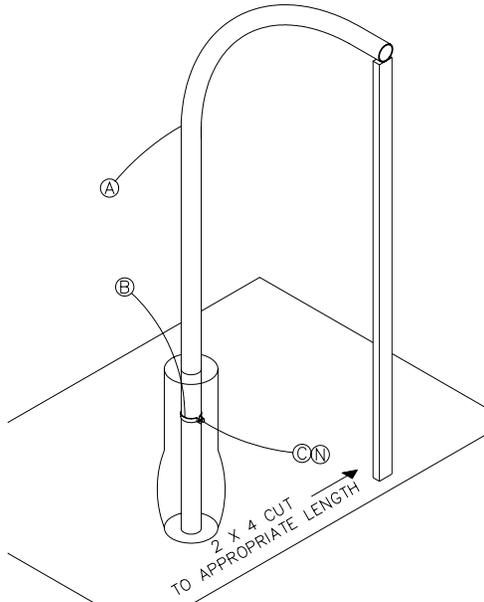

Figure 2
3. Before mixing concrete you will need to prepare bracing and plan orientation of gooseneck upright. The top of the gooseneck pole, where the crossbar attaches, will need to be 10' from playing surface. Use a 2 x 4 that is cut to an appropriate length and brace the bottom of the vertical portion of the pole at the very end. Additional bracing may be required to hold the pole in its proper position. Orient the top (horizontal) portion of the gooseneck pole parallel to the side lines and perpendicular to the end line. See Figure 2.